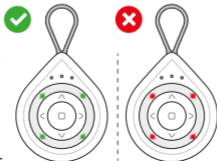

Fig. 12.6
6. A successfully completed operation will be signaled by controller through single blink of green LEDs, if the operation is not successfully completed, the controller will signal it through a triple blink of red LEDs (Fig. 12.6).